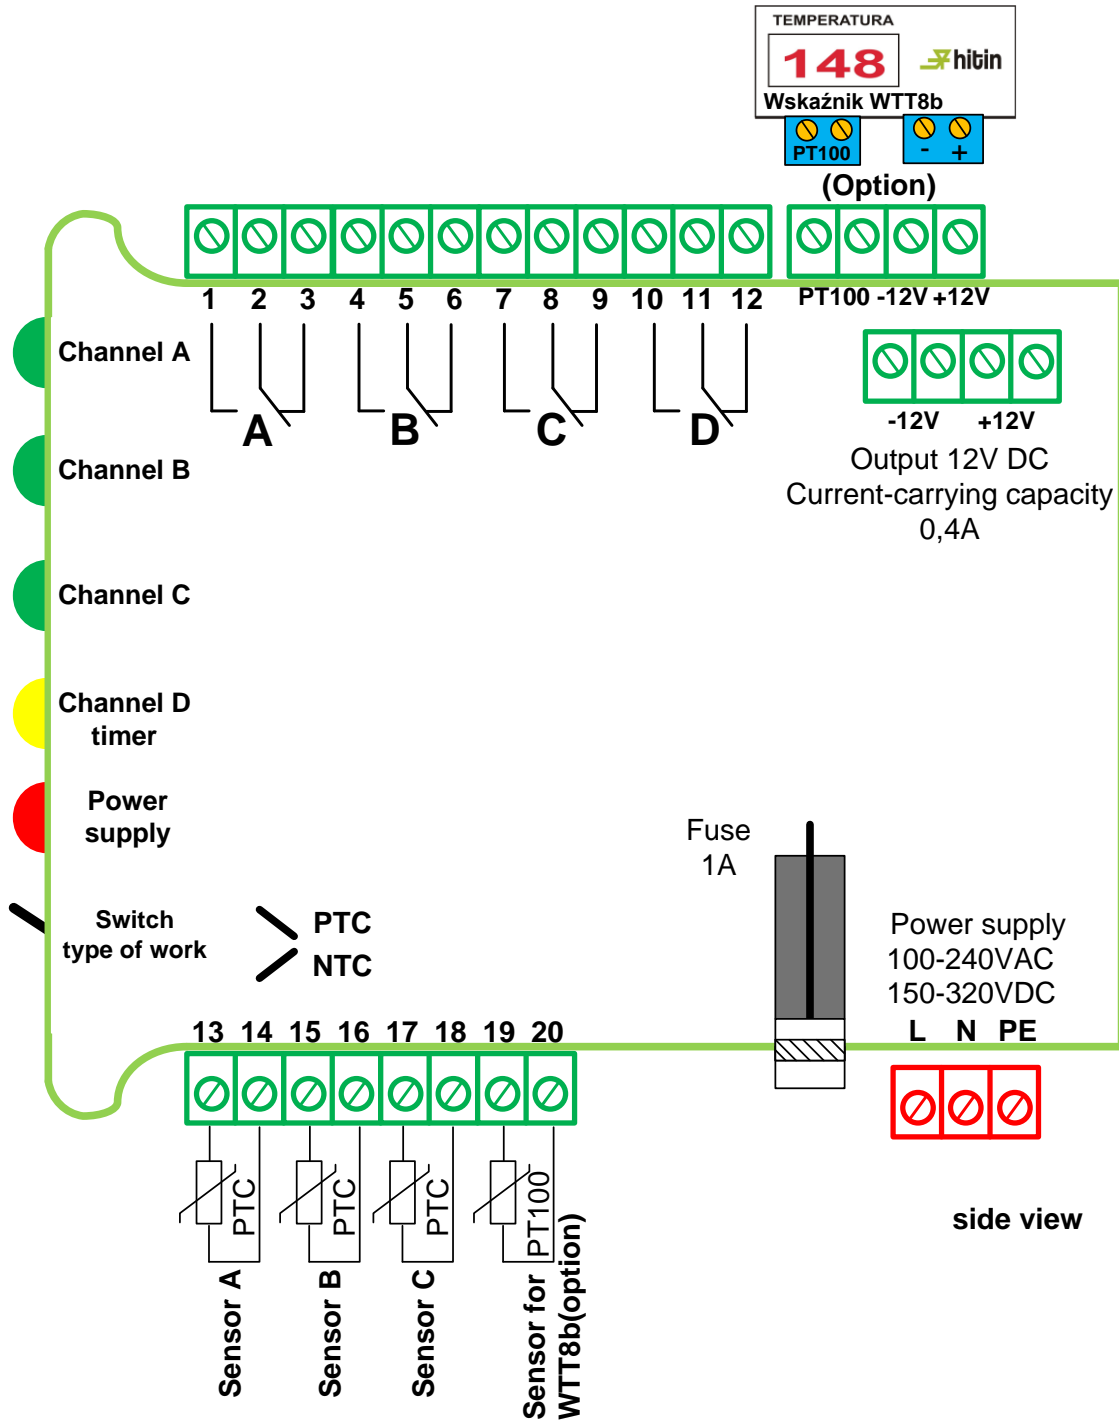

Fig.2 Arrangement of basic elements RTT16 (standard version).
Setting the switch the type of work in position PTC (upper position- fig.2). Relays are switched on when temperature is correct. The relays are switched off when temperature is too high. In the absence of power this combination causes the relay pass in the state such as the over-temperature, which protects the transformer in case of power failure. (Recommended)
Setting the switch the type of work in position PTC (upper position- fig.2). Relays are switched off when temperature is correct. The relays are switched on when temperature is too high. In this position system does not control the temperature in the absence of power supply .
- Change fuse (see fig.2).